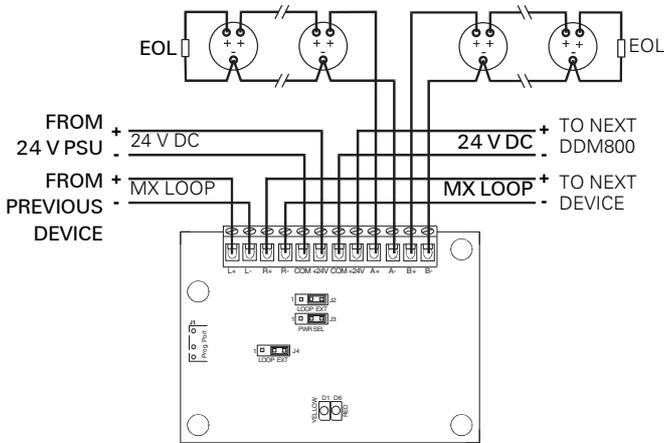

Fig. 8: Spur circuits with external 24 V
- 4 See Figs. 8 to 14 for simplified DDM800 wiring diagrams.